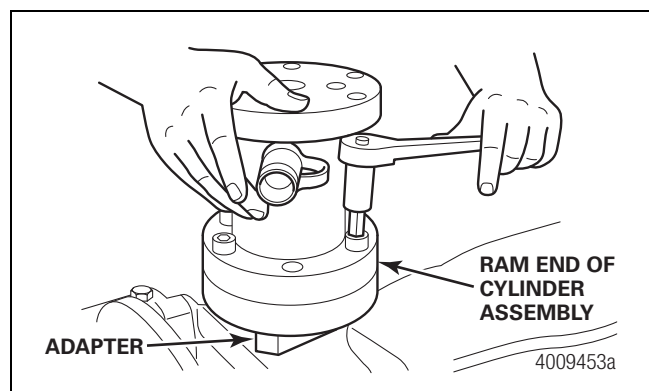

Figure 10.26
19. Flip the cylinder assembly over so the ram is facing inward toward the king pin. Install the long (60 mm) bolts to secure the cylinder assembly to the adapter. Figure 10.26.